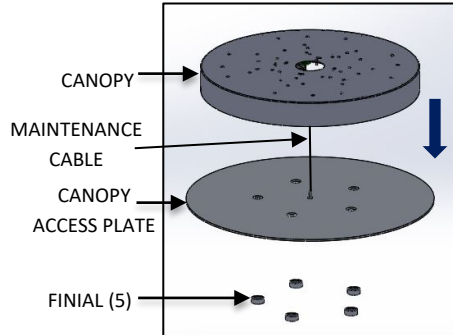

FIG. 5 – CANOPY ACCESS PLATE DIS-ASSEMBLY
1. Dis-assemble the FINIAL (5) and leave the canopy access plate supported by the maintenance cable attached to the CANOPY ASSEMBLY and feed the building supply wire into the hole in the CANOPY as it is raised up to the ceiling as shown in below fig. 5.